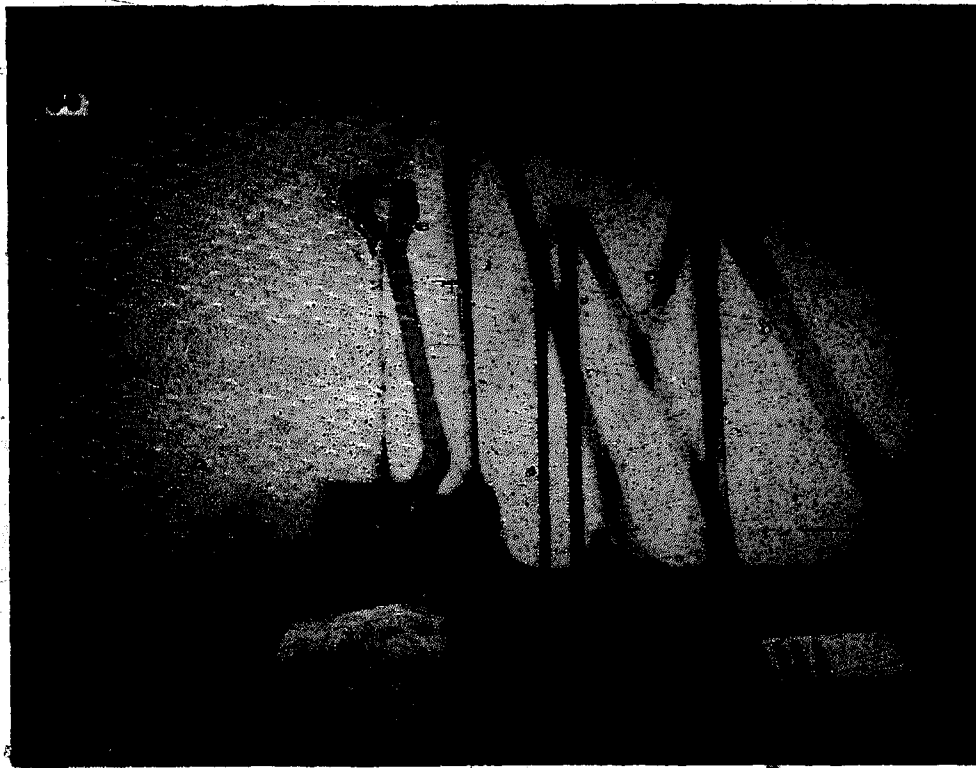

Figure 5. Tools for soil selection and sampling.
*THE FIRST THING TO DO IS TO GET SOME SAMPLES OF THE SOILS IN YOUR AREA*—Here is the equipment that will help you do this. (See Figure 5.)